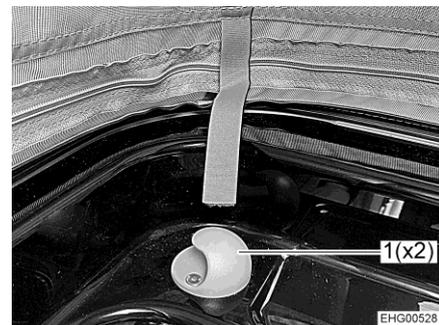

Fig. 42 Holder
- Attach the safety net to the two holders (Fig. 42,1).